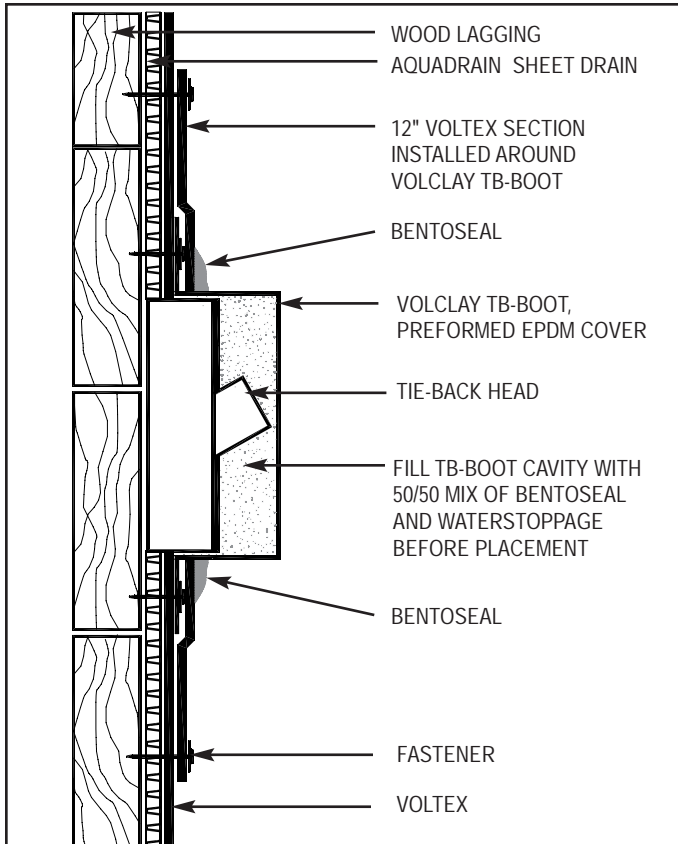

Figure 2.3 - PREFORMED TB-BOOT COVERS
**Tie-Back Covers:** Cut and secure Voltex to fit tightly around all tie-back heads. Then install a Volclay TB-Boot preformed EPDM cover over tie-back heads and other applicable retaining wall anchorage (Figure 2.3). TB-Boot will cover tie-back heads up to approximately 6" (150mm) diameter. Prior to installing TB-Boot cover, fill cavity of boot with a 50/50 mix of Bentoseal mastic and Waterstoppage (granular bentonite). Install TB-Boot over tie-back head and secure perimeter flange of TB-Boot with fastener to shoring wall. Cut and secure an extra section of Voltex around the TB-Boot cover; installing the Voltex section over the boot perimeter flange and extending outward from the boot a minimum 12" (300 mm) radius. Finally, install  $\frac{3}{4}$ " (18 mm) cant of Bentoseal around the base of the TB-Boot cover, extending onto surface of Voltex cut section (Figure 2.3).